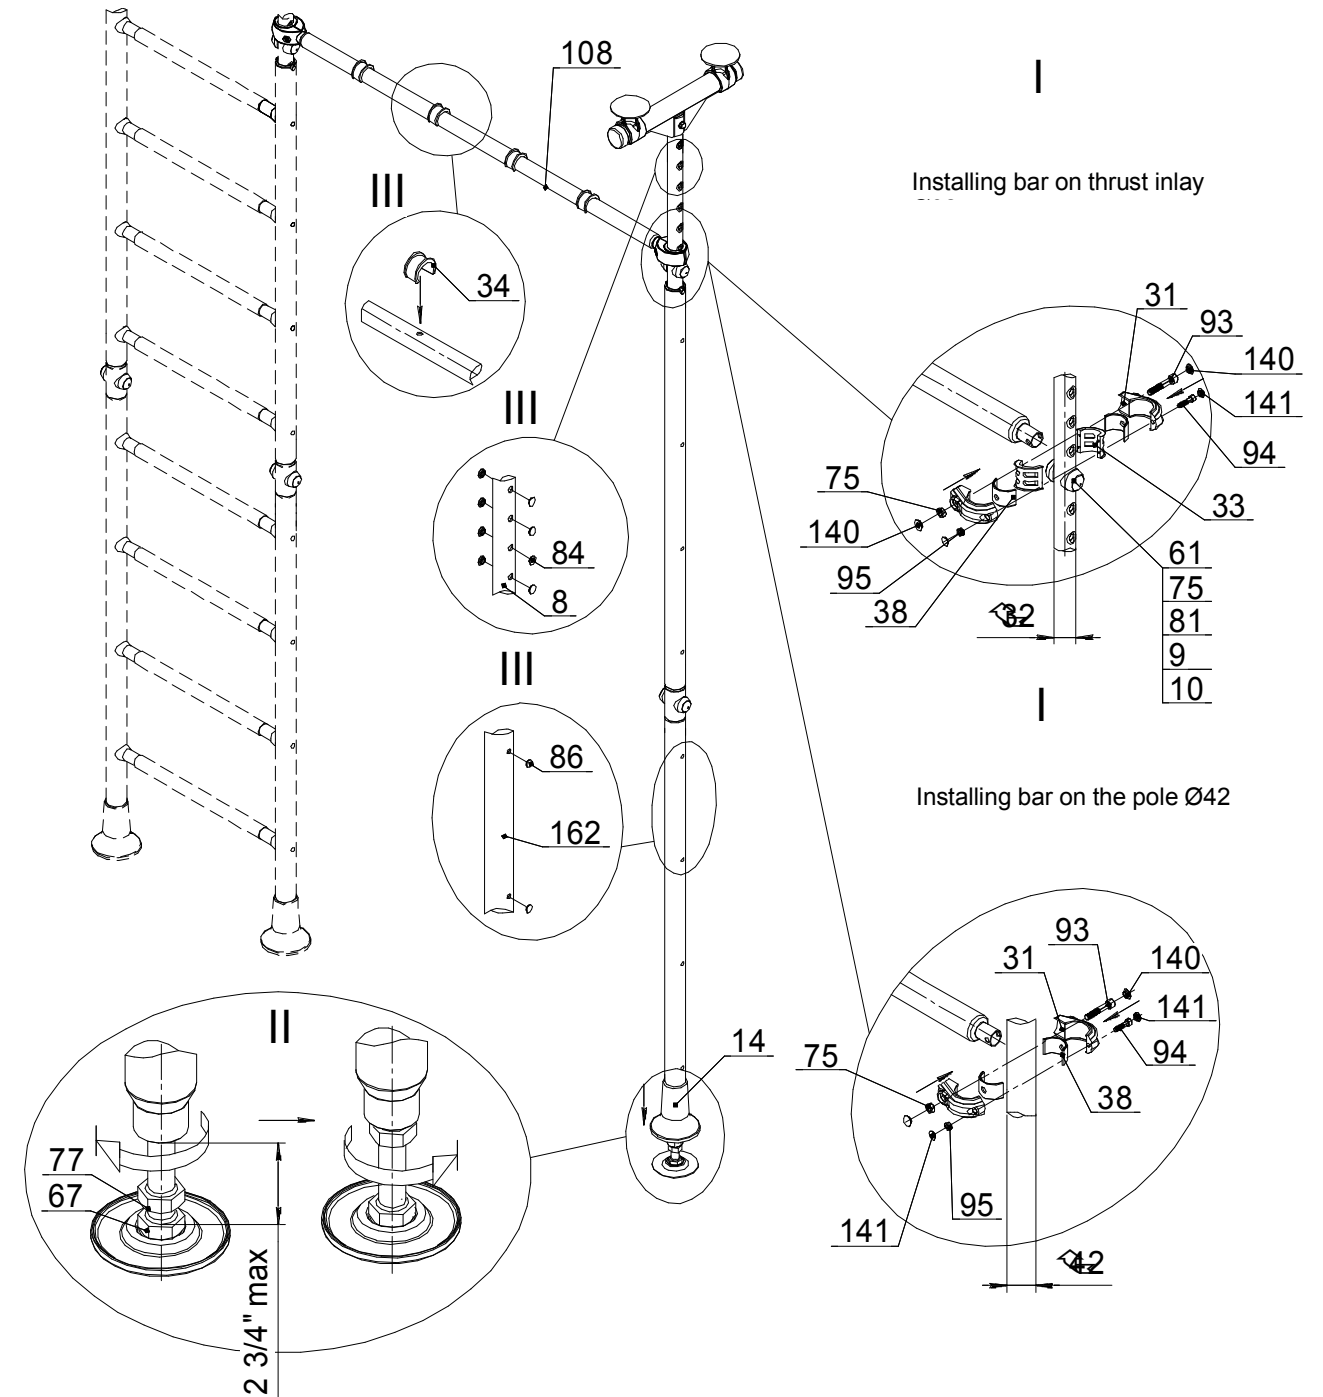

Fig 5
- I. Install bar (item 108, fig 5). **Screws (item 93; 94) should not be fastened tight, closing plugs item 140; 141 should not be installed.**
- II. Strut off the assembled pole by unscrewing bolt (item 67). Ensure that the pole is well leveled. When all the upper foots touch with the ceiling necessarily do 1-3 revolution of the bolt (item 67) and lock it by the screw nut (item 77). Put the hood (item 14) down until it stops;